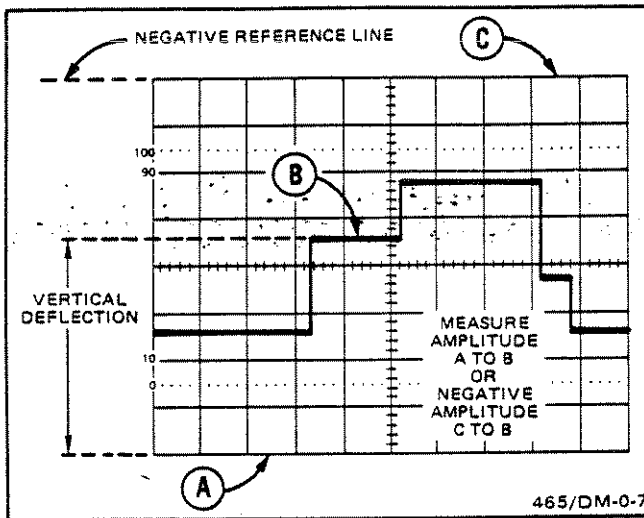

Figure 15. Instantaneous voltage measurement.
4. Switch the AC-GND-DC switch to DC. Measure the divisions of vertical deflection between the reference line and the desired point on the waveform (see Figure 15).
EXAMPLE: The vertical distance measured is 4.6 divisions (see Figure 15). The waveform is above the reference line, and the VOLTS/DIV switch is set to 2.